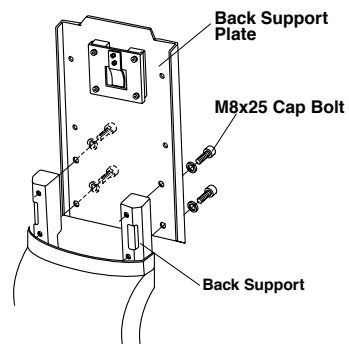

Fig.6-17 Fixing Back Support Plate
(2) Fixing the Backrest
- A. Fix the back support plate to the back support by 4 x M8 cap bolts and spring washers. (Fig.6-17)